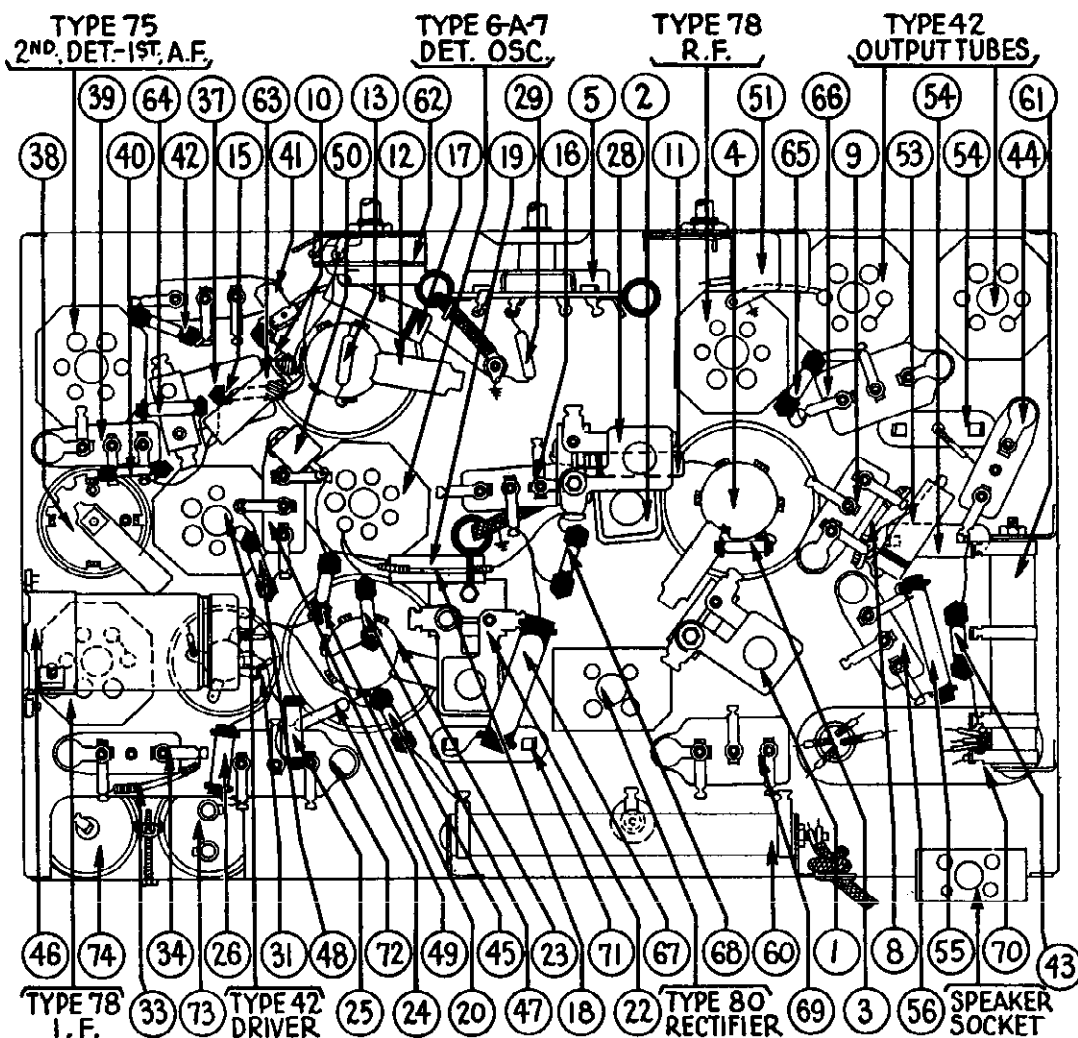

Fig. 4. Base View
*See Note below Fig. 4. Note: Part (27) is as shown above only in early production. In later production this part is incorporated as part of (66) not visible from below.